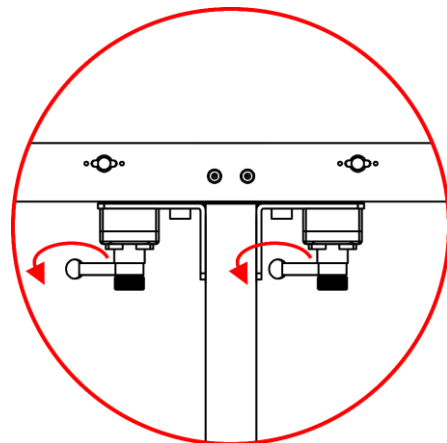

Fig. 10
- 03) Turn the locking levers clockwise to tighten the **rear frame (D)** to the **bottom frame (C)** (Fig. 10).